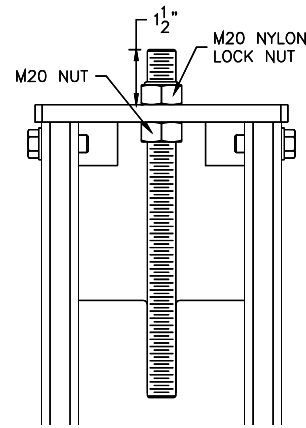

Fig 7 – Lock Ladder Assembly
- 8) Adjust the lock ladder so about 1½” remains sticking out of the top. Torque both bolts as shown in **Fig 7** when ladder is properly orientated. Note: When adjusting the lock ladder it maybe necessary to loosen or remove the bolts holding the top cap to the column so the bottom nut can be adjusted easily.